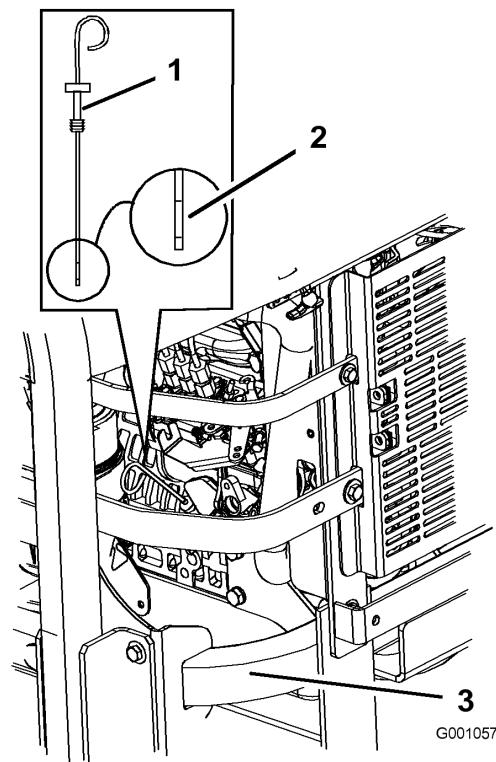

Figure 30
3. Clean around the oil dipstick (Figure 30) so dirt cannot fall into the filler hole and damage the engine.
4. Pull the oil dipstick out and wipe the metal end clean (Figure 30).
5. Slide the oil dipstick fully into the filler tube. Pull the dipstick out and look at the metal end (Figure 30). If the oil level is low, slowly pour only enough oil into the fill hole to raise the level to the full mark.